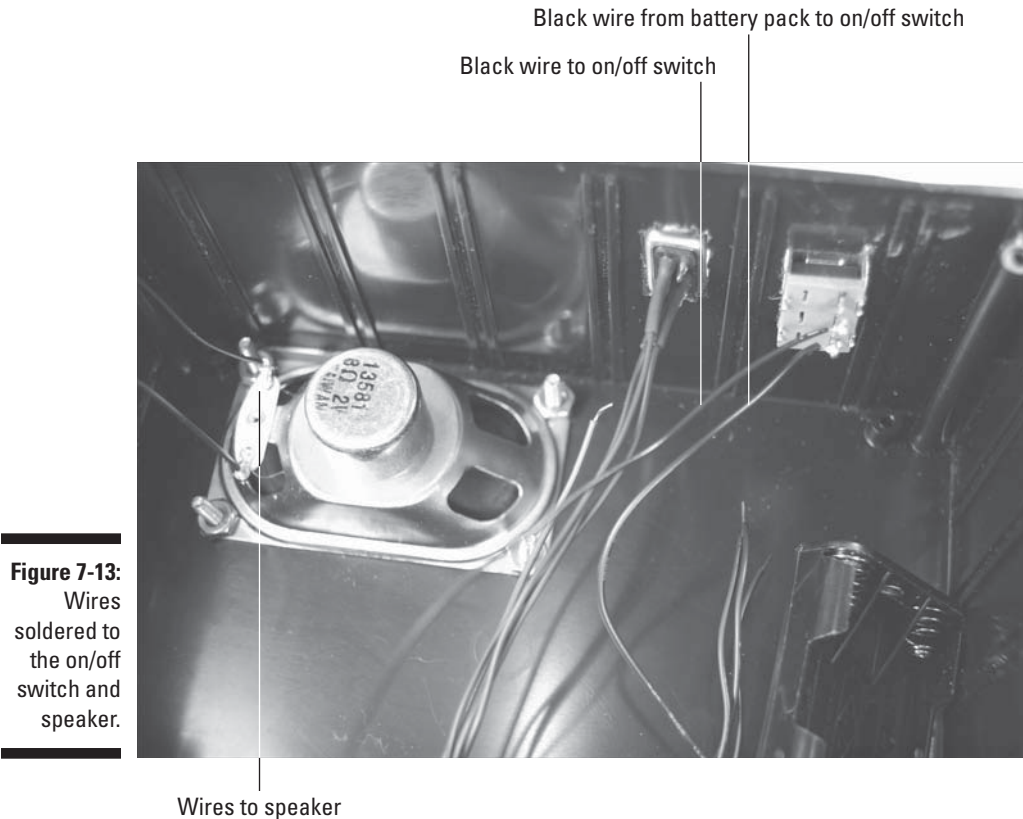

Figure 7-13:
- 5. Solder the black wire from the battery pack to one lug of the on/off switch and solder an 8" black wire to the other lug of the on/off switch, as shown in Figure 7-13.**
- 6. Solder a 6" black wire to each of the two solder lugs on the speaker, as shown in Figure 7-13.**